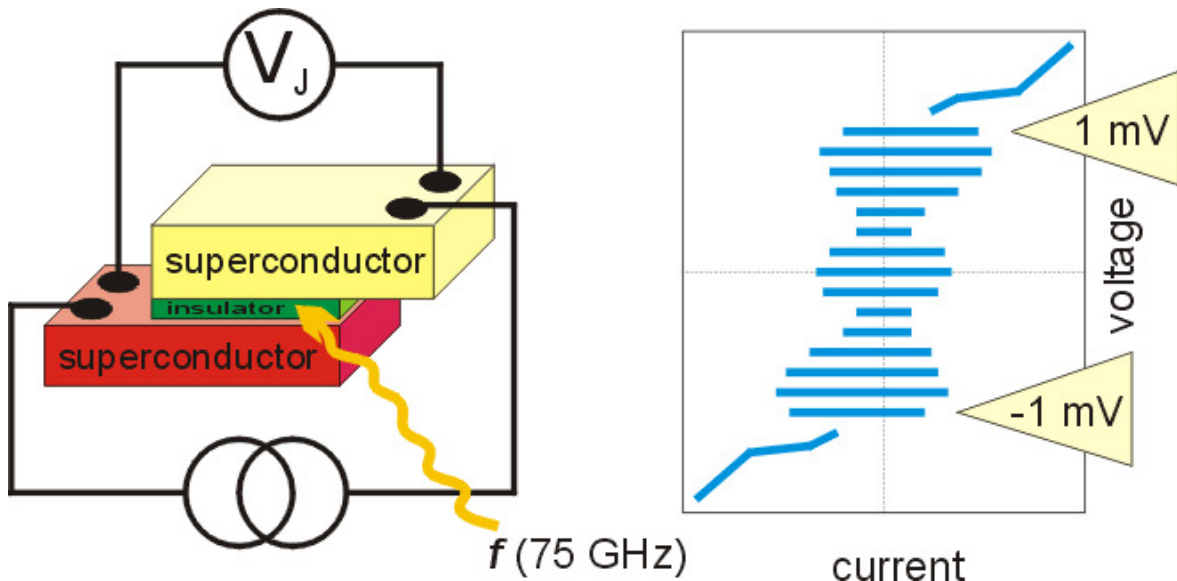

Figure 1: Schematic Superconductor-Insulator-Superconductor (SIS) Josephson junction (JJ) with current voltage characteristic
The **supraVOLTcontrol** is a primary voltage standard which uses arrays of Josephson junctions (JJ). These junctions consist of a thin insulating barrier between two superconductors, see Figure 1. When exposed to electromagnetic radiation of frequency  $f$ , the dc voltage  $V_J$  across the junction can only assume discrete values given by
On the right of Figure 1 the principle current voltage characteristic of a single Josephson junction (JJ) is shown under microwave irradiation at a frequency of 75 GHz. Clearly seen are the steps of constant voltages, the so called Shapiro steps. Their voltage is given by eq. 1, in which the integer  $n$  represents the step order of the Shapiro step. For a single JJ the quantised Josephson voltage is limited to a maximum of about 1 mV, therefore a large number of JJs connected in series is required to obtain practical voltage levels up to 10 Volt.